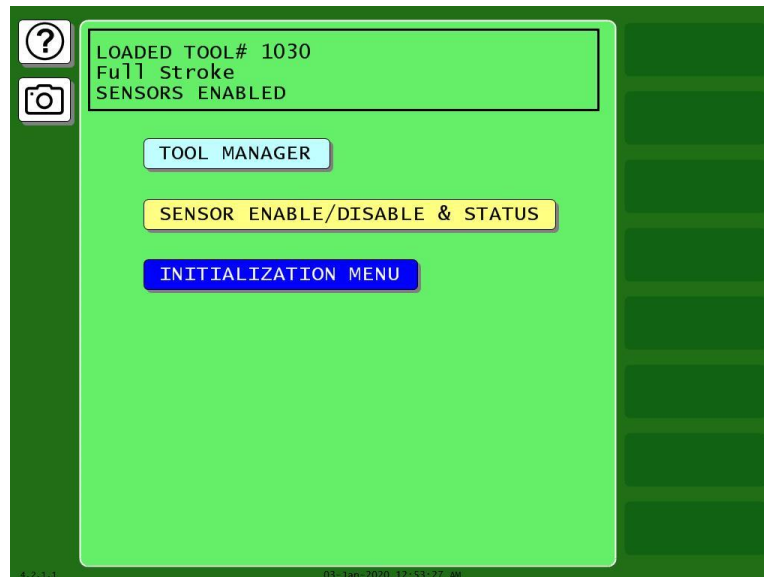

Figure 2-19. Main Program Menu
9. Turn the Program/Run key switch to PROG, and press RESET until the Main Program Menu (see Figure 2-19, page 56) displays. Try stroking the press. Since SmartPAC PRO Servo's E-stop relays are always open in Program mode, the ram should not move.